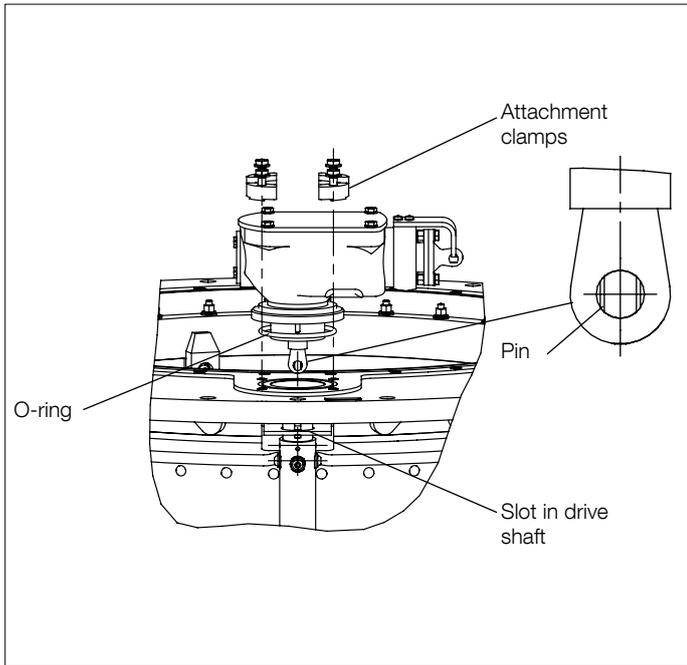

Fig. 17.
7. Place the O-ring for the bevel gear in its groove in the upper flange; see Fig. 17. Remount the bevel gear unit in the position it had before removal, and make sure that the pin in the spherical shaft end fits into the drive shaft slot without rotating the drive shaft. Secure the gear unit in the flange with its four clamping screws M10x35 and washers.